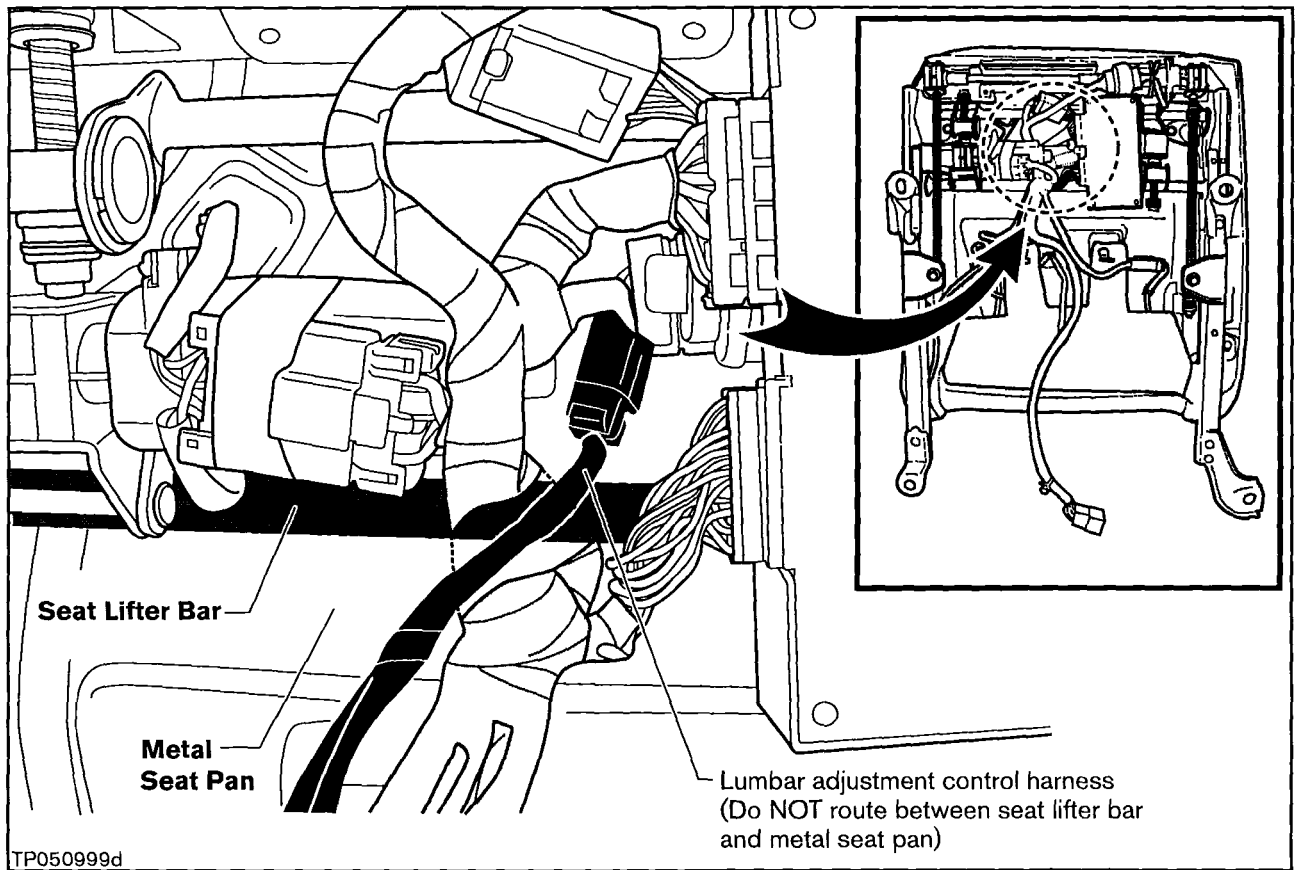

Figure 14
- The lumbar adjustment control harness is reconnected and routed as shown in Figure 14.